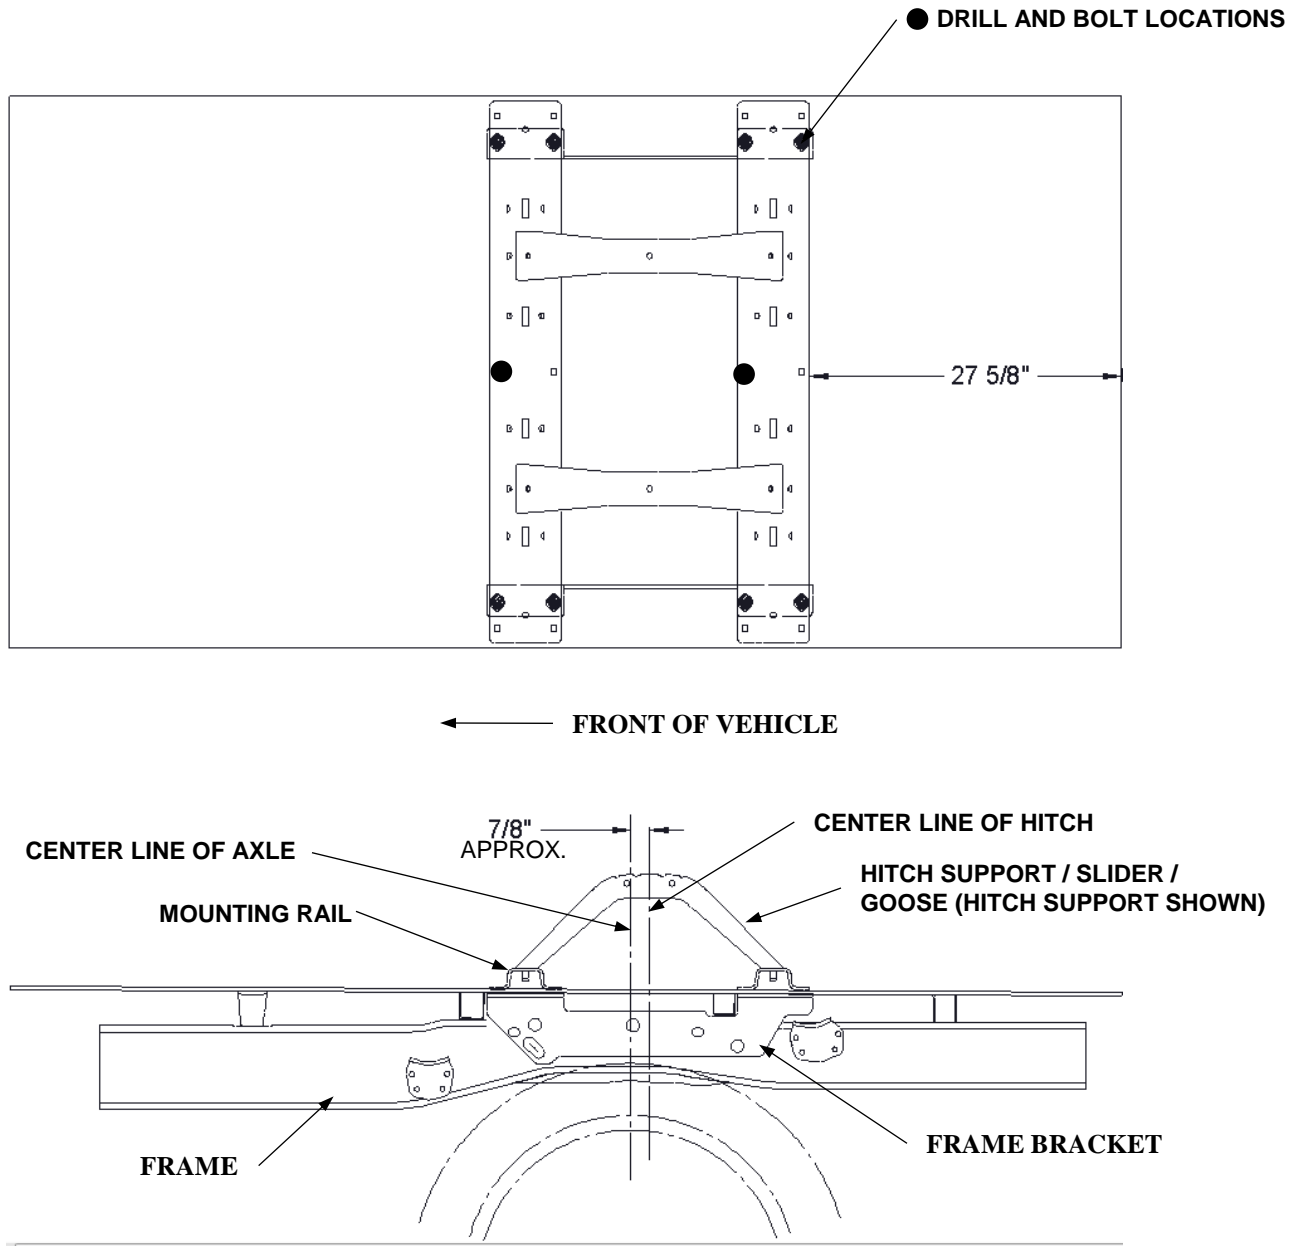

Figure 2
3. Place the rear mounting rail on the bed of the truck. Using your tape measure, center the rail between the weld seams on the length of the truck bed floor and the proper distance from the rear edge of the truck box as illustrated in Figure 2. See page 1 for mounting the brackets to the rails and brackets to the frame.
4. Mark and center punch the holes as per the illustration in Figure 2. Move the rail out of the way and drill each position with a 1/8" drill bit. **Warning: When drilling holes be aware of potential risks to vehicle components, such as brake lines and fuel tanks, and make appropriate safe guards to protect them from damage.**
7. Loosely install the frame brackets by aligning the brackets with holes in the frame. Insert M14 bolt and washer(1) into slots in the bracket and through the holes in the frame. Install the M14 nut with retainer(2) on the bolt. Snug the bolts. Do not tighten.